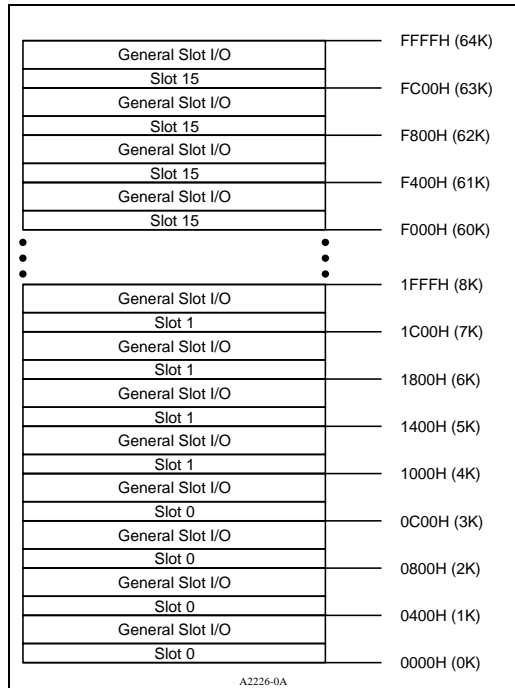

Figure 13. EISA I/O Space
The Intel386 EX microprocessor's I/O address scheme (similar to that of EISA(32) systems) exploits the above facts by assigning 63 of the 64 repetitions of the first 256 address locations to specific *slots*¹. The partitioning is such that 4 groups of 256 address locations are assigned to each slot, for a total of 1024 specific address locations per slot. (See Figure 13.) Since add-in I/O cards decode only the lower 10 address lines, they respond to the "general" 768 bytes (repeated 64 times). Thus, each slot has 1K addresses (in four 256-byte segments) that can potentially contain extended peripheral registers. [1]